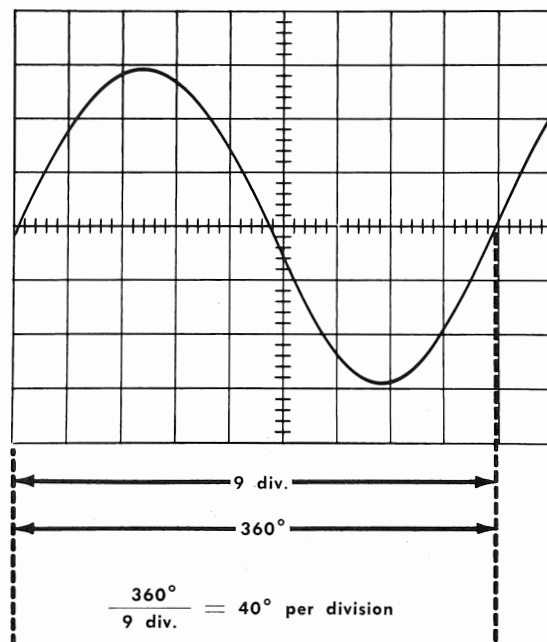

Fig. 3-1. One method for calibrating the oscilloscope display in degrees per division.
Phase measurements can be obtained directly from the crt display. A complete cycle of a sinusoidal waveform is 360 degrees; therefore, it is possible to calibrate the oscilloscope display directly in degrees per division by means of the TIME/DIV. controls. For example, if the TIME/DIV. controls are adjusted so one cycle of the displayed waveform covers 9 divisions (see Fig. 3-1), each division corresponds to 40 degrees and the display is calibrated to 40 degrees per division.
2. Connect the first (leading) signal to the oscilloscope input. Adjust the TIME/DIV. controls so one cycle of the waveform covers exactly 9 graticule divisions. This corresponds to 40 degrees per division (as in Fig. 3-1).